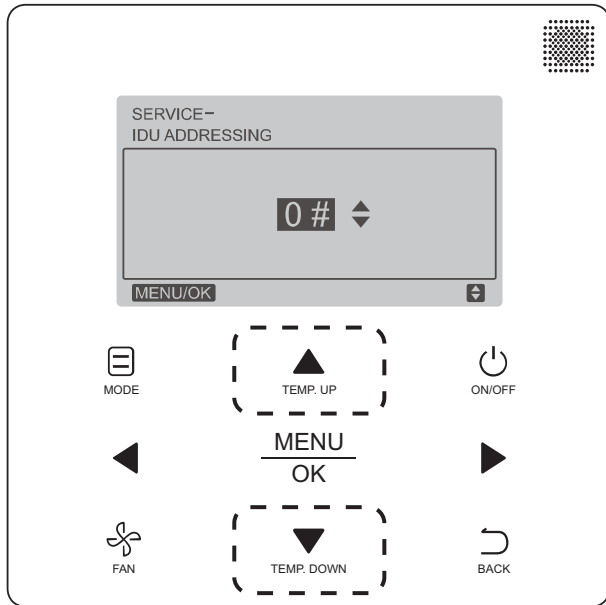

Fig. 19 — Programmable Controller (40VM900003) Setting IDU Address
3. Press **TEMP. UP** or **TEMP. DOWN** to choose the address you want to set, see Fig. 19. Press **MENU/OK** to send this address to the IDU.